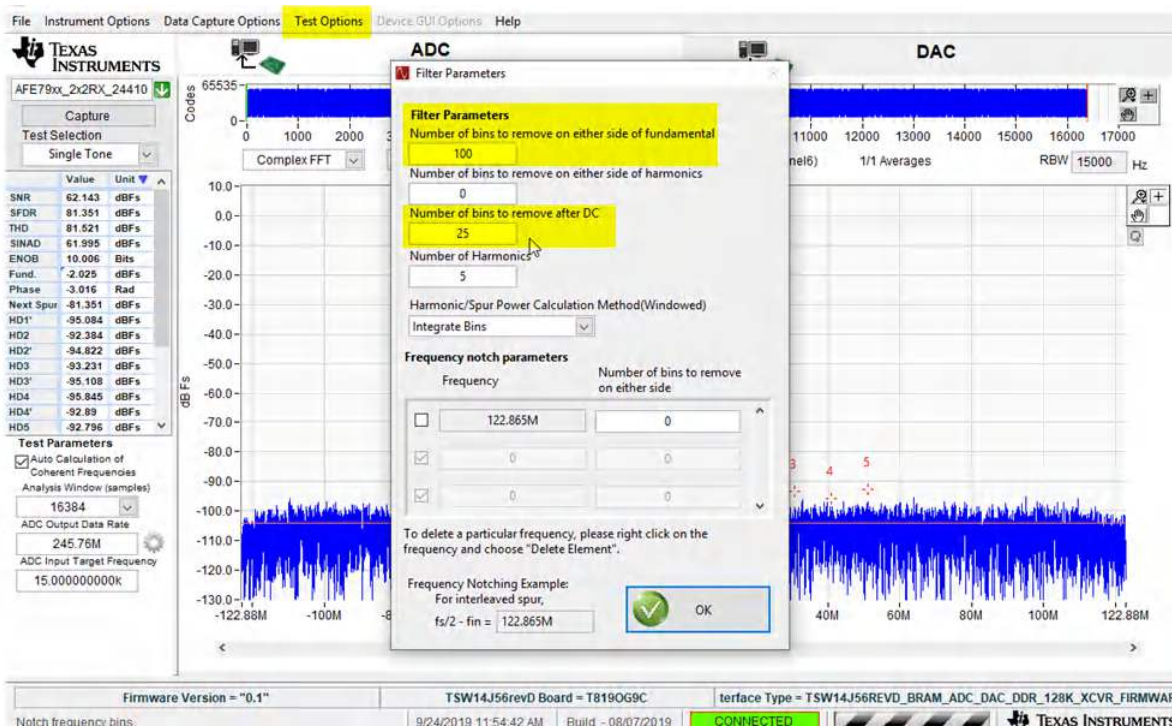

Figure 4-9. HSDC PRO ADC Performance FFT Binning Configuration
1. Before starting the RXADC and FBADC performance capture, the test option of the HSDC PRO must be setup. Go to *Test Options* to enter the *Filter Parameters* menu. By default, there are 25 bins to remove on either side of fundamental and 25 bins near DC to remove. As shown in Figure 4-9, change the number of bins to remove on either side of fundamental to 100 bins.